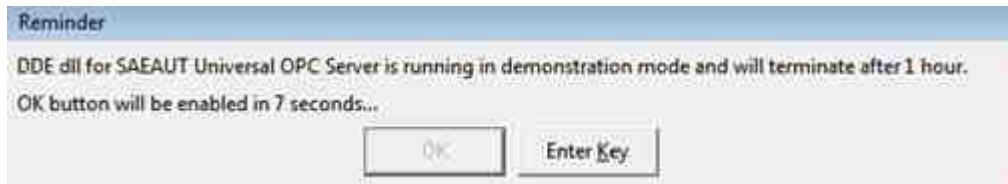

Figure 1: Dialog box for activation of DDE client driver.
1. Start the configuration application of the container application from Start menu (e.g. "OpcDbGateway Configurator" as in the Figure 1) The description what you should see is in paragraph After installation^[8].